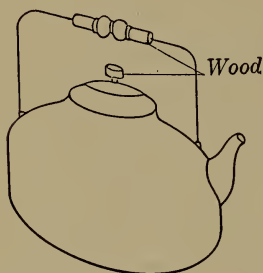

FIGURE 23.—WOOD HANDLES ON A TEA-KETTLE.
**49. Non-conducting Handles for Cooking Utensils.** — Figures 23, 24, 25, and 26 show different methods used to keep the handles of cooking utensils cool. The teakettle is made of metal, all except the handle, and that is made